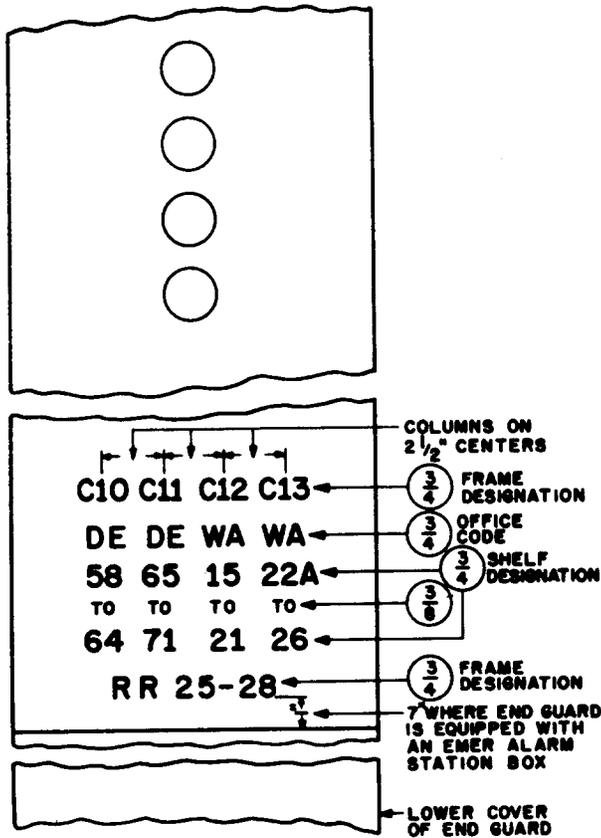

Fig. 38 - Typical Stamping Arrangement on Cabinet-type End Guards in Step-by-Step Offices
↖ **2.62** Line-up designations on cabinet-type end guards in step-by-step offices, where number plates are not employed, shall be stamped as shown in Fig. 38.
20. Fig. 38 was added.